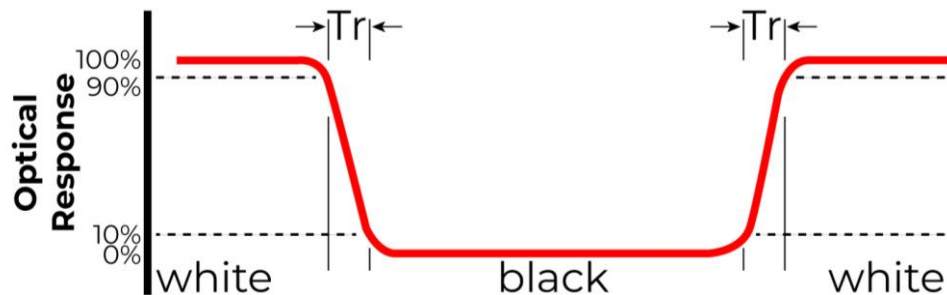

Figure 2. The definition of response time
| Response Time              | Tr+Tf    | $\theta=0^\circ$$\phi=0^\circ$Ta=25 °C | -     | 28    | 45    | ms                | FIG 2. | 4, 7 |
**Note 1.** Contrast Ratio (CR) is defined mathematically as below, for more information see Figure 2.
**Note 2.** Surface luminance is the LCD surface from the surface with all pixels displaying white. For more information see Figure 2.
**Note 3.** The uniformity in surface luminance  $\delta$  WHITE is determined by measuring luminance at each test position 1 through 5, and then dividing the minimum luminance of 5 points luminance by maximum luminance of 5 points luminance. For more information see Figure 2.